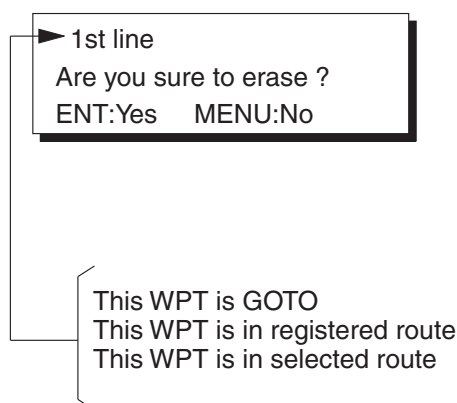

Figure 5-17
- 2) Press the **CLEAR** key. The message shown in Figure 5-17 appears if the waypoint is currently selected as destination, is part of a registered route, or is part of the route currently being navigated.